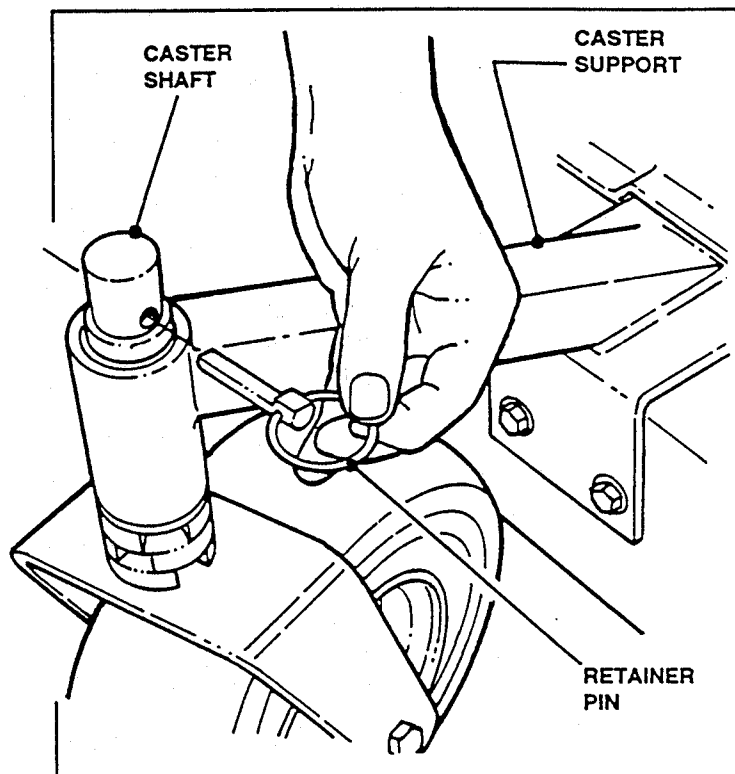

FIGURE 20
- Remove Retainer Pin from Caster Shaft. See Figure 20.